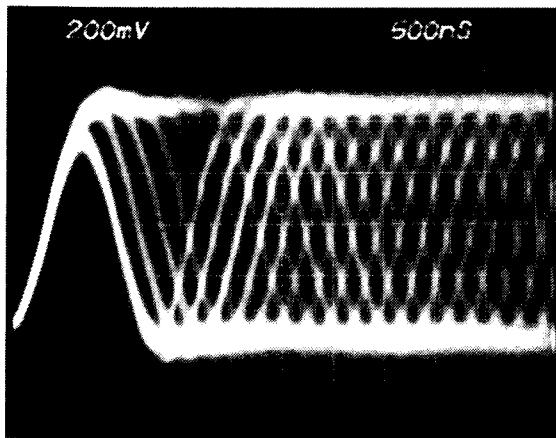

Fig. 4-5
- 3) Press the (FF) or (FR) Buttons so that the Jitter Direction Adjustment Screw may situate to the middle of the Inclination Adjustment Hole.
- 4) Confirm that the HF signal (Eye-Pattern) shown in Fig. 4-5.